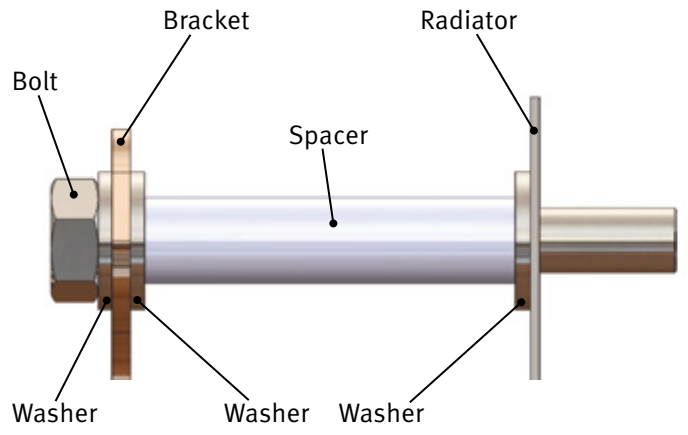

Fig. 3
5. **An extra pair of hands will be beneficial at this point.** Lay the radiator front down on a flat surface, then carefully lay the twin fan assembly in position aligning the holes in the brackets with the holes in the radiator. Lower the fans and radiator into position in the car with the fans positioned between the radiator and the engine and using Fig.3 as a guide, mount in place using the 40mm spacers (Item 14) 8mm washers (Item 13) and 63.5mm bolts (Item 10), in the following sequence: radiator, washer, spacer, washer, bracket, washer then bolt.